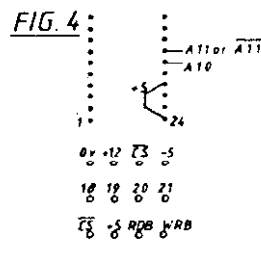

FIG. 4
STEP 1 (Solder side of board - see fig 4)
STEP 2 (Solder side of board - See Fig 4)
STEP 4 (Solder side of board - see fig 4)